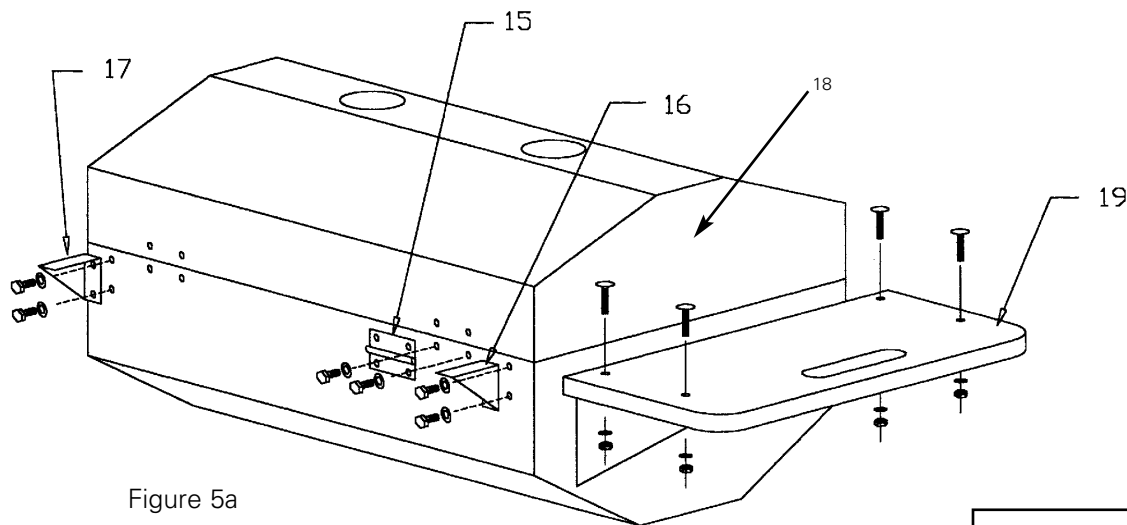

Figure 5a
Refer to Fig. 5a
6. Refer to figure 5a